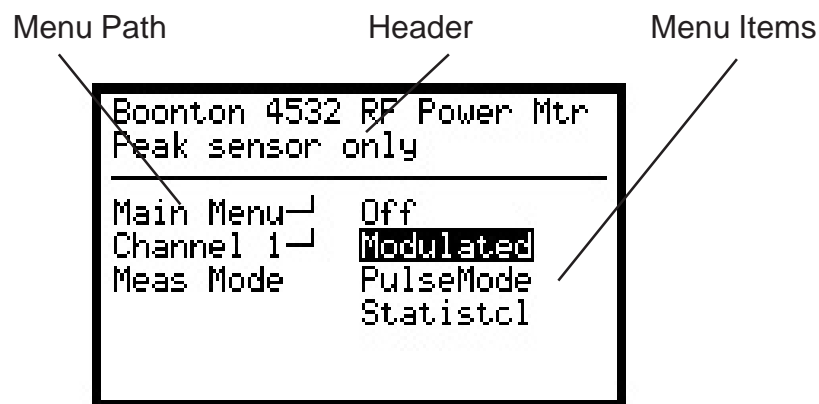

Figure 3-11. Typical Menu Screen
3.5.4 Menu Screen Display. The menu screen is divided into three sections: the *header*, the *path*, and the list of *menu items* (see figure 3-11).